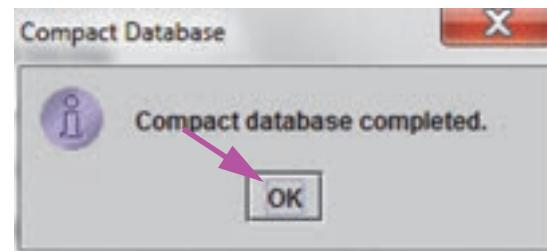

Figure 5-84. Compact Database Completed Dialog Box
3. Click **Proceed** to compact the database. When the database compacting has completed, the Compact Database complete dialog box will appear. See Figure 5-84.